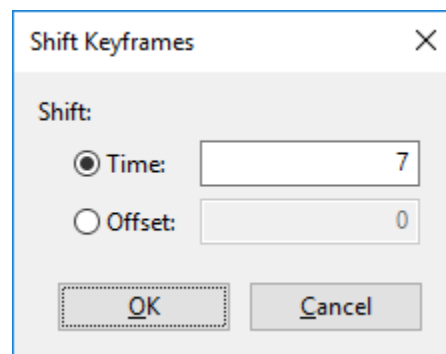

Figure 37. Shift Keyframes dialog
2. Right-click the keyframes and select **Shift Times**. This will open the **Shift Keyframes** dialog as shown in Figure 37.